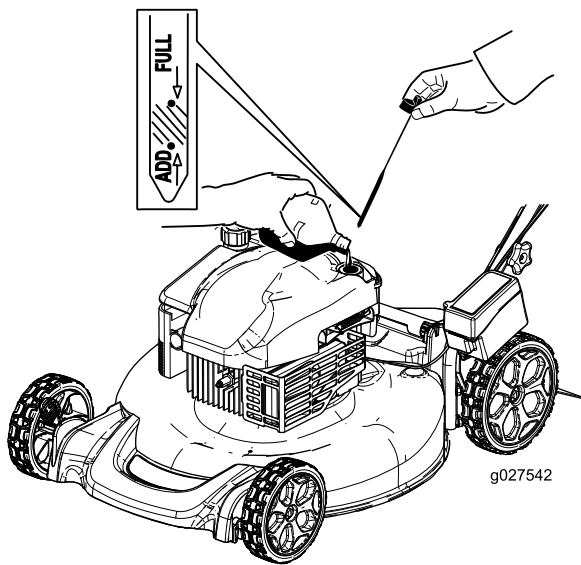

Figure 25
12. Remove the dipstick and read the oil level on the dipstick (Figure 25).